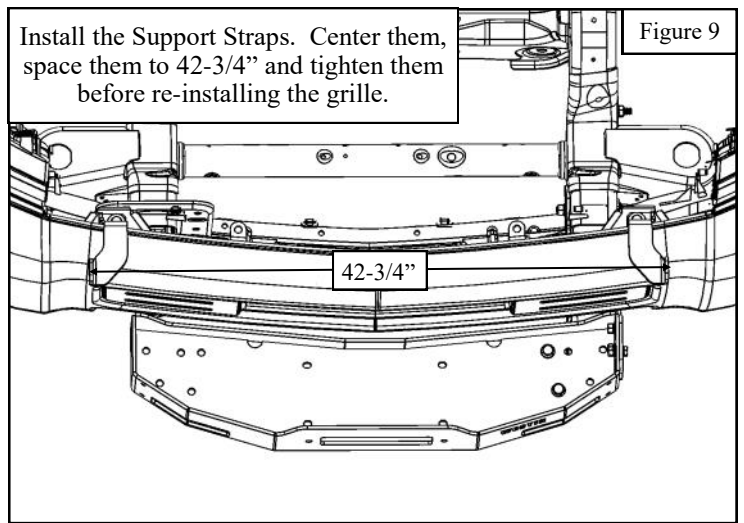

Figure 9
14. Install the Support Straps by re-using the factory bumper bolts. Center the Support Straps and space them 42-3/4" apart (outside edge to outside edge). Tighten and torque these fasteners to 50-55 ft-lbs. Refer to **Figure 9**.